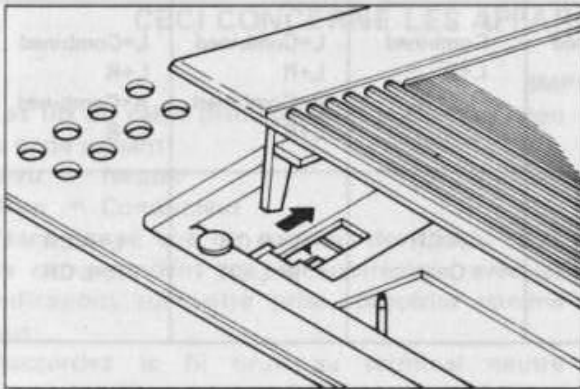

Figure 7. Cassette Compartment Interlock
- 2) Refer to Figure 7. Use a pen or similar object to push the interlock in the direction shown.